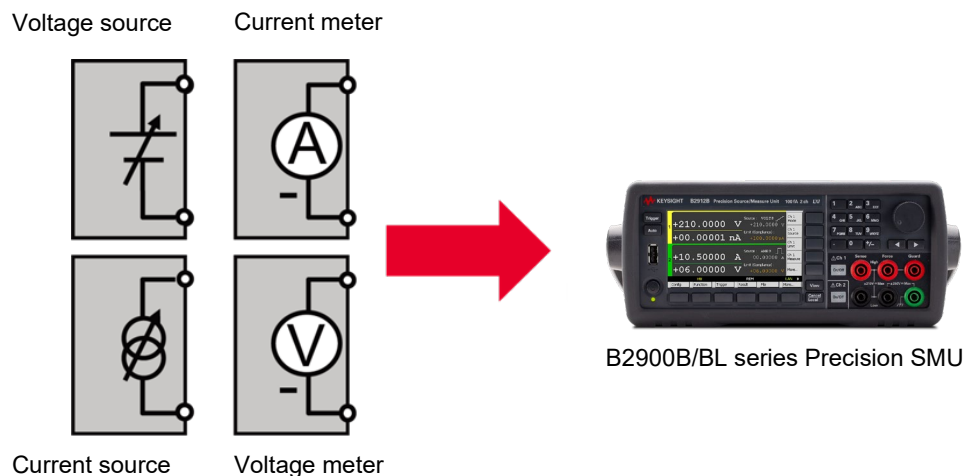

Figure 3. SMU combines four measurement functions into a single instrument
Keysight also offers Keysight B2900B/BL series Precision SMUs, providing a versatile resistance measurement solution that covers currents from 10 fA to 3 A (DC)/10.5 A (pulse) and voltages from 100 nV to 210 V. The SMU combines the capabilities of the current source, voltage source, current meter, and voltage meter along with the capability to switch easily between these various functions within a single instrument (see Figure 3).